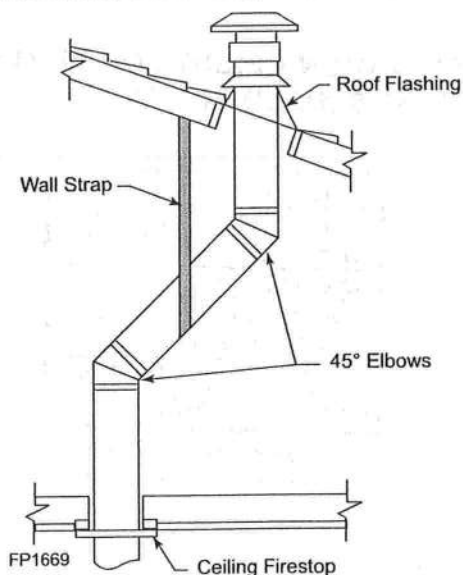

Figure 23 -
1. Cut a 10½" (241 mm) square hole in the ceiling using the locating hole as a center point. The opening should be framed to 10½"x10½" (267 x 267 mm) inside dimensions as shown in Figure 25 using framing lumber the same size as the ceiling joist. If the area above the ceiling is an insulated ceiling or a room, nail firestop from the top side. This prevents loose insulation from falling into the required clearance space. Figure 23. Otherwise, install firestop below the framed hole. Figure 25